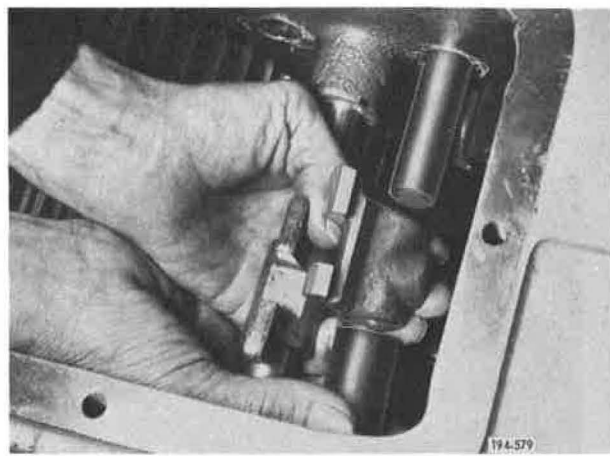

Figure 5-982. Installing Shifter and Spacer
12. Slide first speed shift rail through front of case, and install first speed shifter and reverse lockout spacer onto rail. See Figure 5-982.